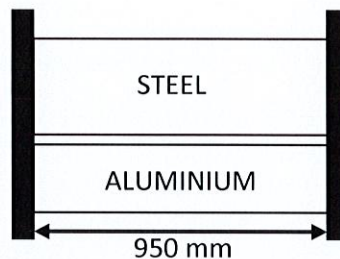

Figure 1 (c)/ Rajah 1 (c)
- (c) Figure 1(c) below shows a compound bar rigidly mounted at both end. Cross sectional area for steel and aluminium bar are 400 mm^2 and 335 mm^2 . If the temperature is dropped by 23°C . Calculate: